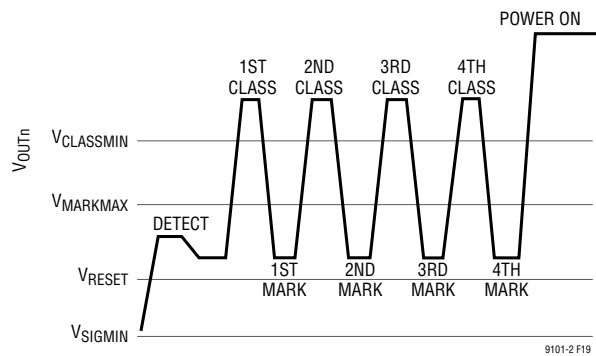

**Figure 17. Type 3 or 4 PSE, 1-Event Class Sequence**
Type 3 and Type 4 PSEs issue a single classification event (see Figure 17) to Class 0 through 3 single-signature (SS) PDS.
PDS. A Class 0 through 3 SS PD presents its class signature to the PSE and is then powered on if sufficient power is available. Power limited 802.3bt PSEs may also issue a single classification event to Class 4 and higher SS PDS in order to demote those PDS to 13W. See Figure 17.